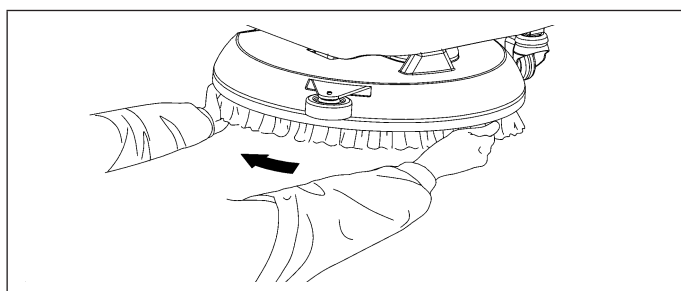
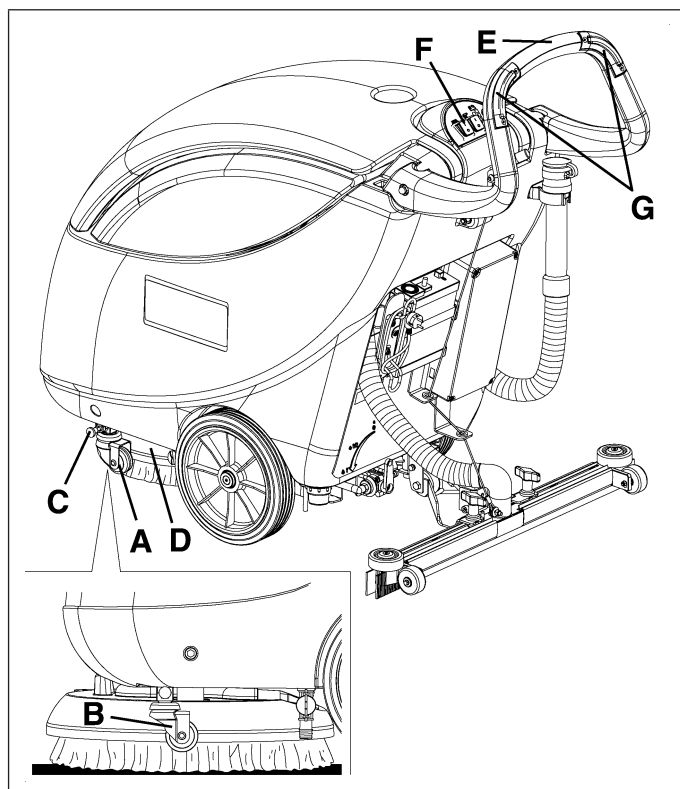

Figure 13
Figure 12
3. Deactivate the transport/parking device (A, Fig. 12) by putting it in position (B) after inserting the relevant pin (C).
4. Lift the brush cover (D, Fig. 12) by prying the handlebar (E).
6. Lower the cover (D, Fig. 12) by means of the handlebar (E).
7. Press the brush push-button on "I" (Fig. 12, F), then press on or both push-buttons (Fig. 12, G) for a few seconds. If the hooking operation is difficult, manually rotate the brush/pad-holder counterclockwise (Fig. 13).